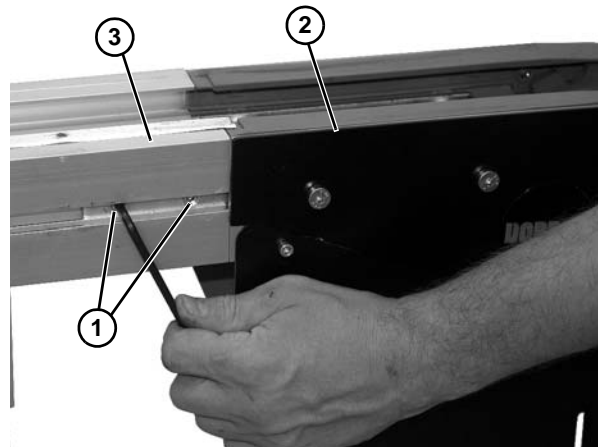

Figure 109
3. Loosen two screws (Figure 109, item 1) on each side of conveyor, and remove the drive tail assembly (Figure 109, item 2) from the conveyor frame (Figure 109, item 3).